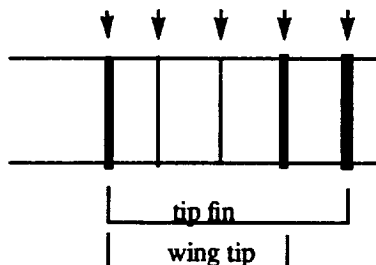

FIGURE C.29. Stations are only at spar locations.
7. Delete all stations that are not spars. (See fig. C.29.)